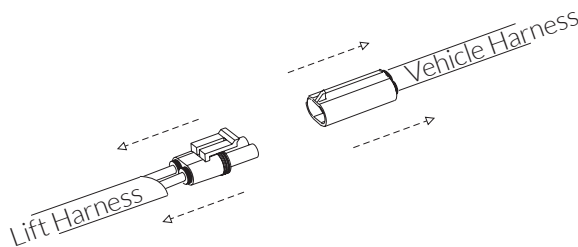

Figure 5-1
1. Unplug power to the lift. *See Figure 5-1.*